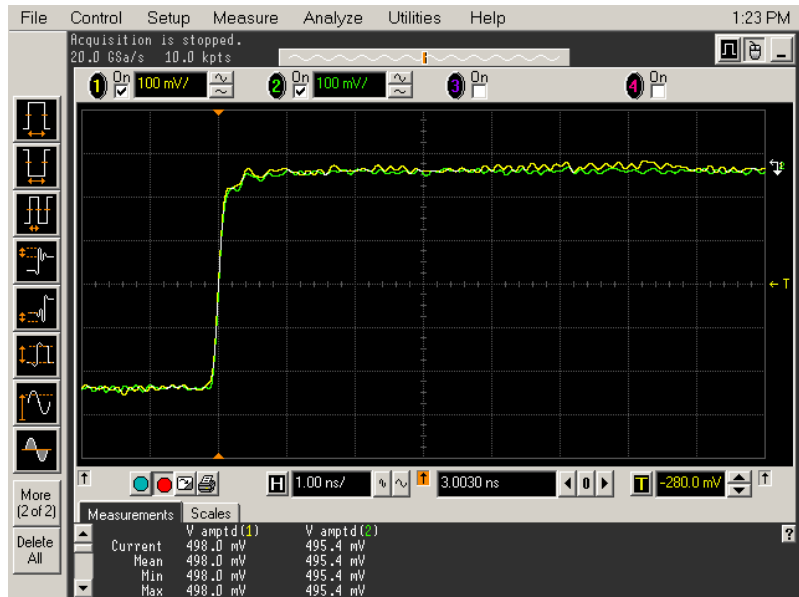

Figure 70 Overlapping Waveforms
- 23 In the Acquisition Setup dialog box enable averaging. When you close the dialog box, you should see waveforms similar to that in Figure 70.